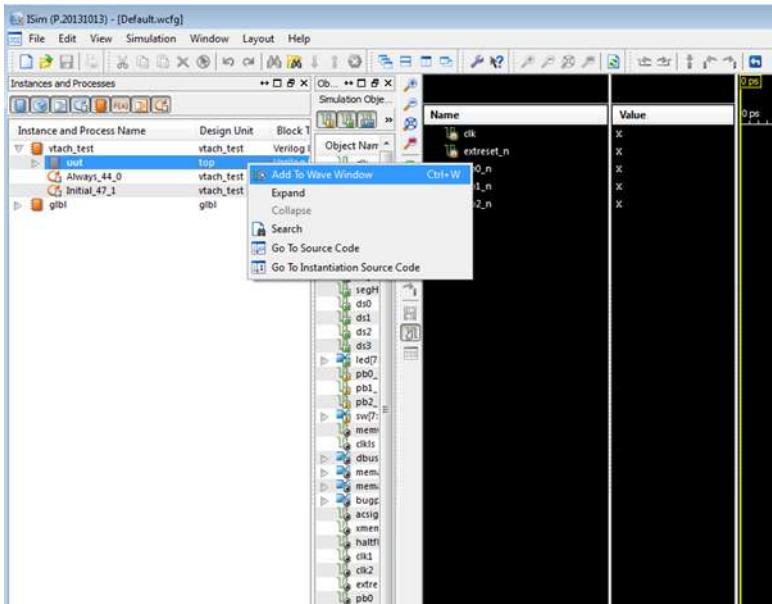

Figure 5-25 Add uut waves
2. In the Instances and Processes window on the left, right-click *uut* and select “Add to Wave Window” (see Figure 5-25).